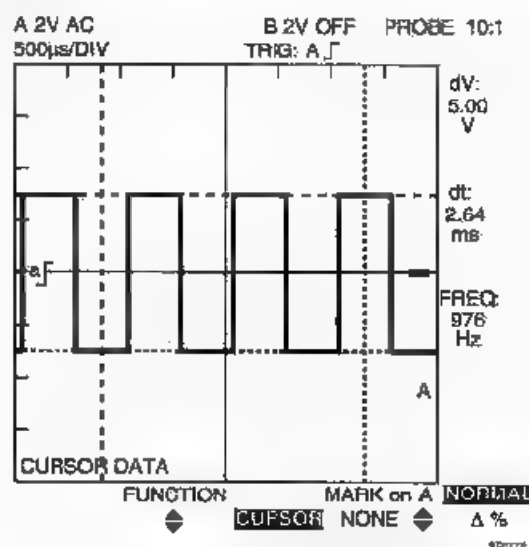

Figure 4.12 Generator produces square wave signal
- I The ScopeMeter display will look like figure 4.12. The generator must produce a square wave signal with an amplitude of 5V and a frequency of 976 Hz (typical values).